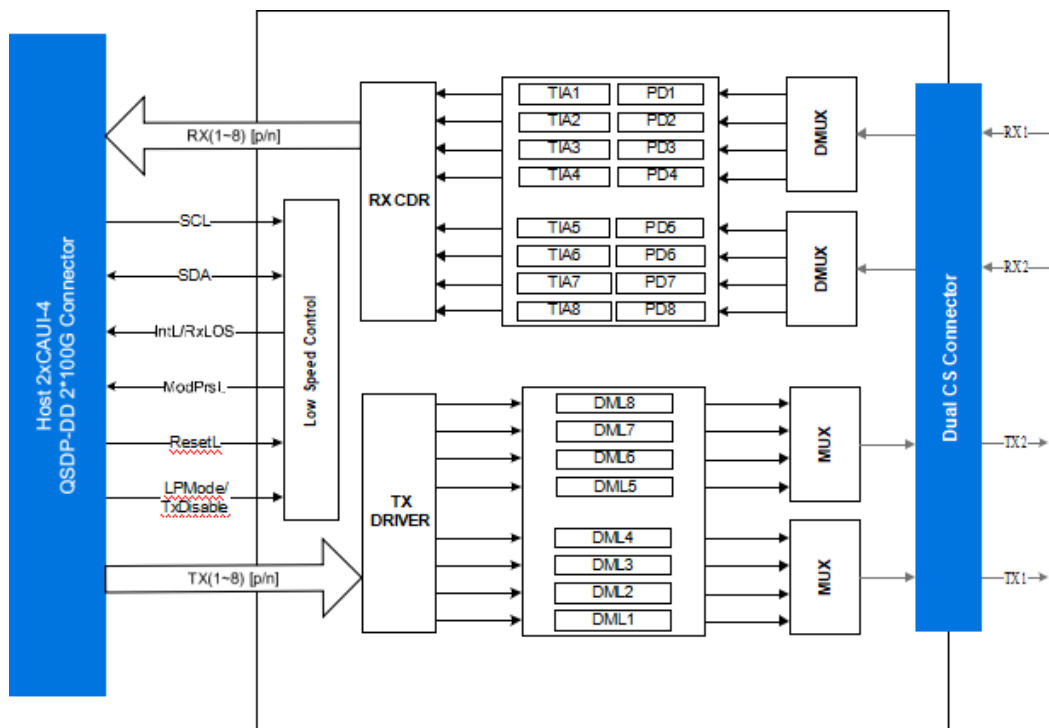

Figure 1: Transceiver Block Diagram
As shown in Figure 1, the transmitter path of the transceiver contains an 8x25Gbps 2xCAUI-4 electrical input with Equalization (EQ) block, optical multiplexer, DML laser driver, diagnostic monitors and 8 directly modulated laser.
As shown in Figure 1, the receiver path of the transceiver contains eight PIN photodiodes, trans-impedance amplifiers (TIA), de-multiplexer and 8x25G 2xCAUI-4 compliant electrical output blocks. The Rx Output Buffer provides CAUI-4 compliant differential outputs for the high speed electrical interface.